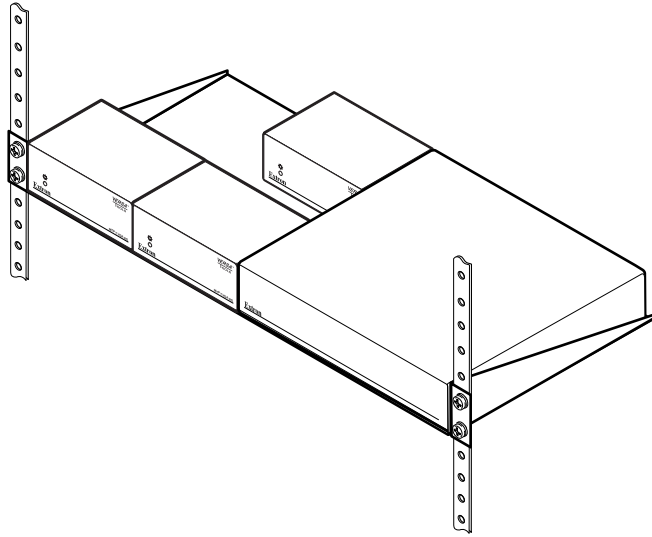

Figure 3 — Mounting the MTP on a standard shelf
- RSU 129 Standard universal 1U rack shelf kit (part #60-190-01) (figure 3)